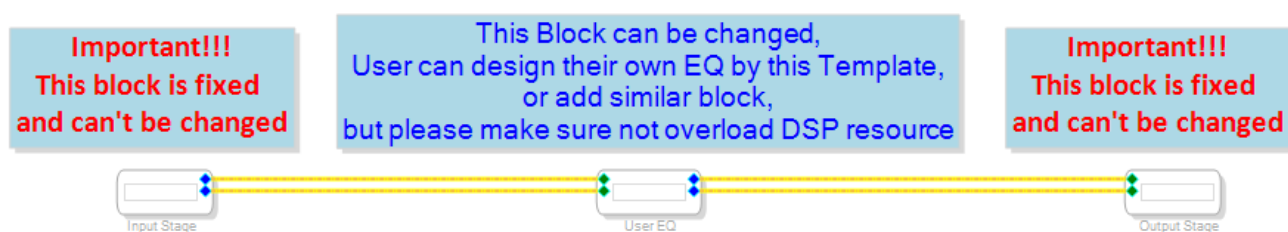

Figure 1: DSP Main Block
Below(figure1) demo example showing that a **User EQ** block had been reserved for DIY, all tuning and further modification **MUST** inside this block and others is locked to protect unnecessary function lose.
**Change Points: refer figure 1&2 blue area**
**Change Points: refer figure 1&2 yellow area**
**Change Points: refer figure 1&2 brown area**